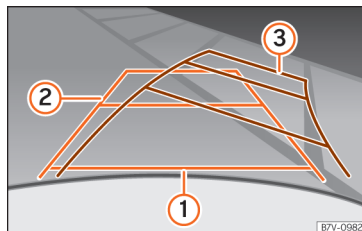

Fig. 276 Screen: orientation lines for the parking space behind the vehicle.
Meaning of orientation lines displayed on the screen »» **Fig. 276.** All of the lengths of the orientation lines use a vehicle located on a horizontal surface as reference.
- Reverse slowly and turn the steering wheel so that the yellow orientation lines guide you towards the space » **Fig. 276 ③**.